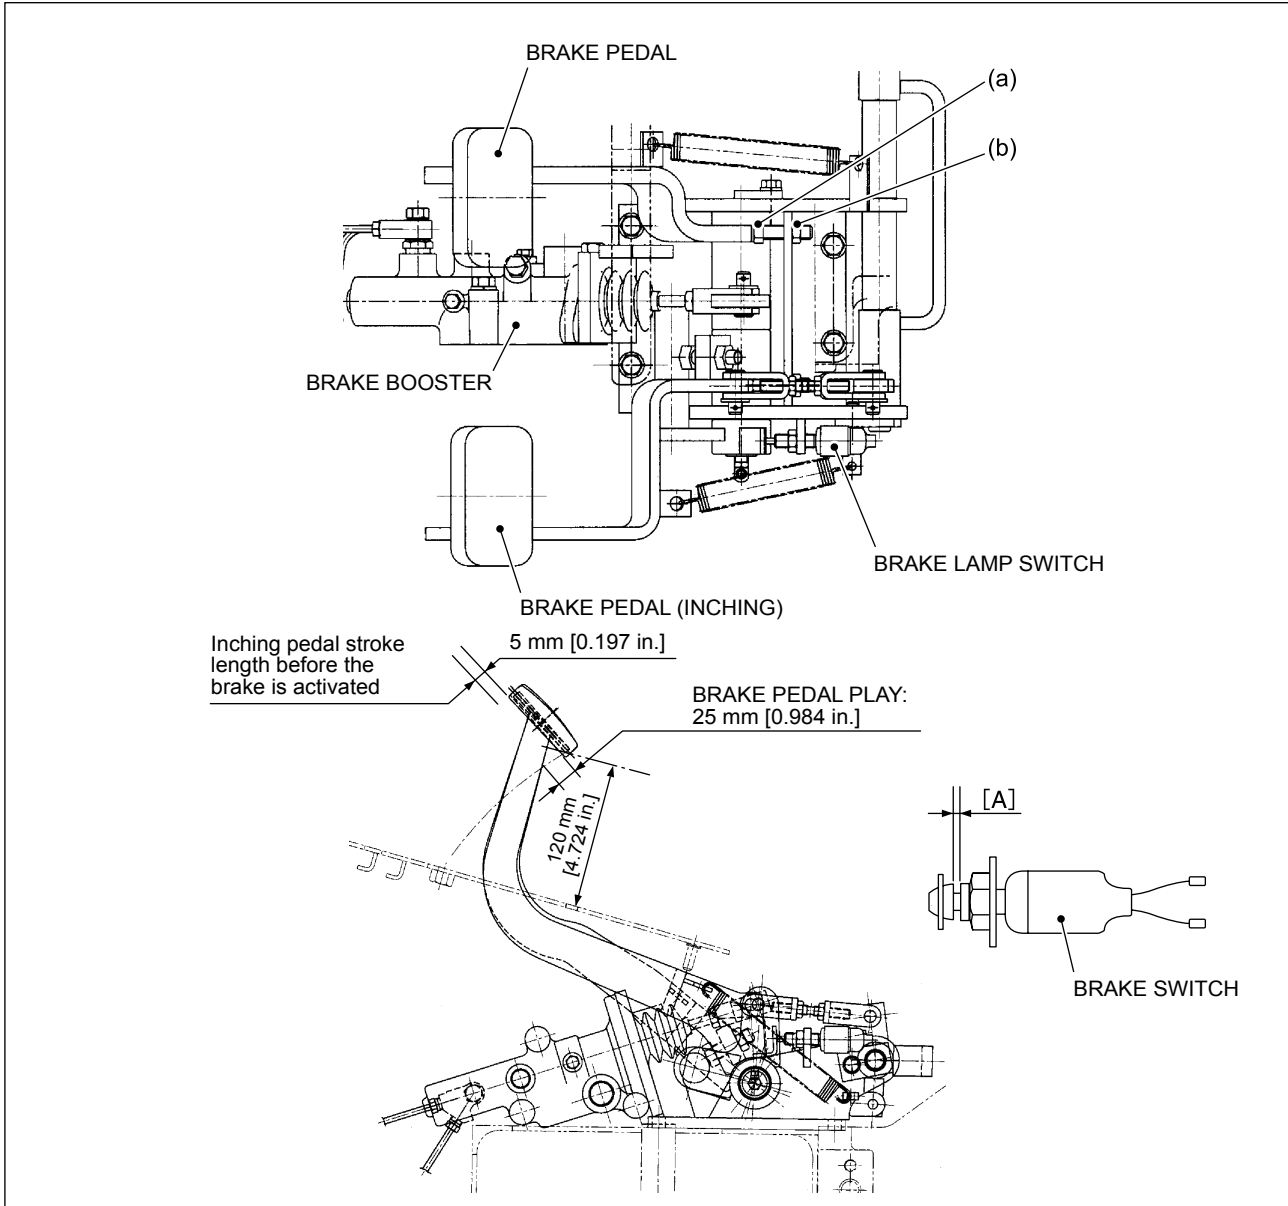

Fig. 3.254
- ① Shorten the pushrod of the master cylinder properly.
- ② Adjust the pedal height as shown in Figure 3.254, using the adjust bolt.
- ③ Press the brake pedal by the play, extend the pushrod so that its end comes in contact with the master cylinder piston.
- ① Make sure the brake pedal height is as indicated in Figure 3.254, and then loosen the brake switch lock nut.
- ② Remove the brake switch lead wire connector.
- ③ Turn the switch so that the size "A" is 1 mm [0.04 in.].
- ④ Make sure the brake lamps turn on when the brake pedal is pressed by the play.
- ① Remove the hold pins (3) and spring retainers (4) from each of the primary shoe (1) and secondary shoe (2).